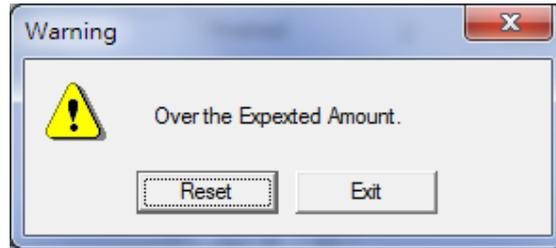

Fig. 3.1.06
**Expected Amount:**Set the expected marking amount.If the marking reach the setting value, the system will pop up a warning box like Fig.3.1.06.